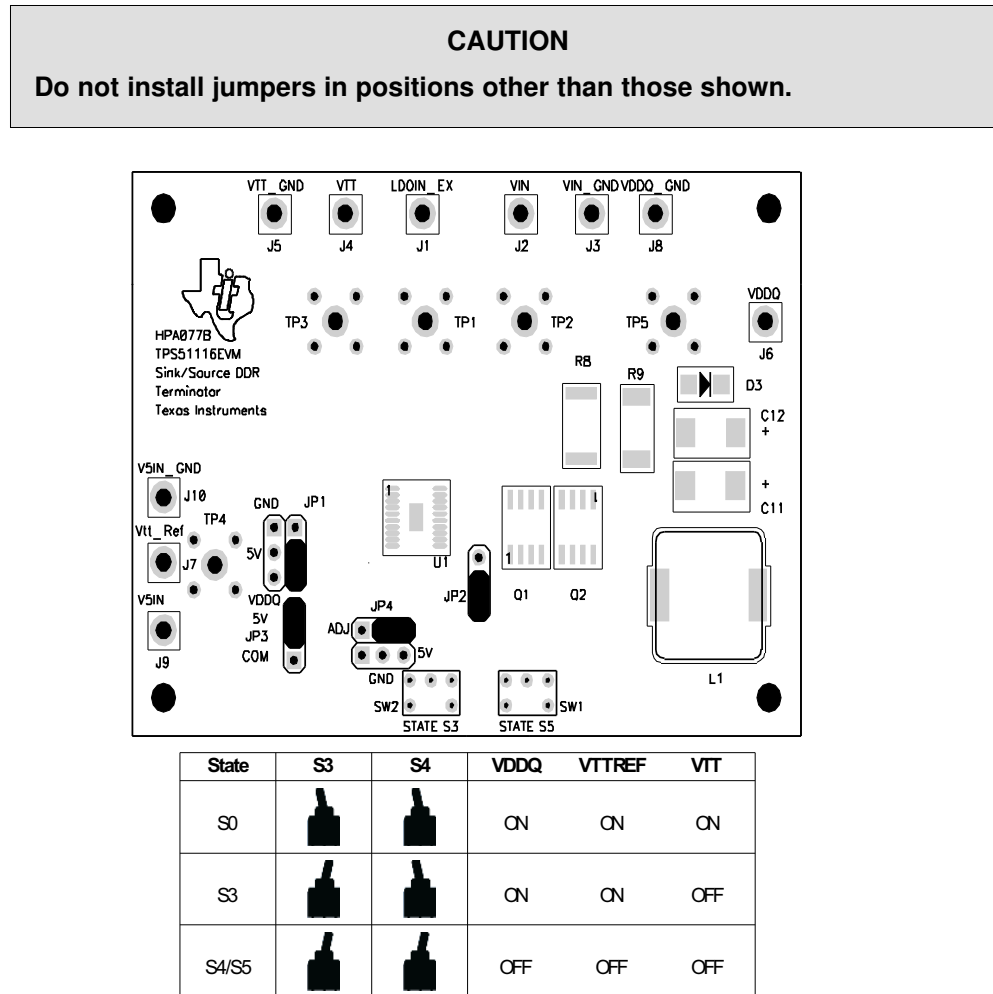

Figure 2. TPS5116EVM Jumper/Switch Locations and Default Positions
Figure 2 shows the location of the four jumper blocks, two switches and three resistors used to adjust the configuration of TPS5116EVM. Refer to the specific configuration settings sections regarding how to set each jumper, switch or resistor for the specific configuration desired.
4. Ensure S3 and S5 are set to the S4/S5 state to ensure the outputs initially disabled before applying the input voltage. See Figure 2 for details.
7. Switch S3 and S5 to the S0 state to enable the outputs. See Figure 2 for details.